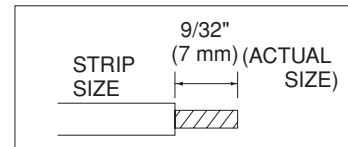

Fig. 28
- (1) Cut the wire end with a cutting pliers, then strip the insulation to expose the wire about 9/32" (7 mm). See the label (Fig. 28) near the terminal plate.
- (2) Using a screwdriver, loosen the terminal screw on the terminal plate.
- (3) Insert the wire and tighten the terminal screw completely using a screwdriver.